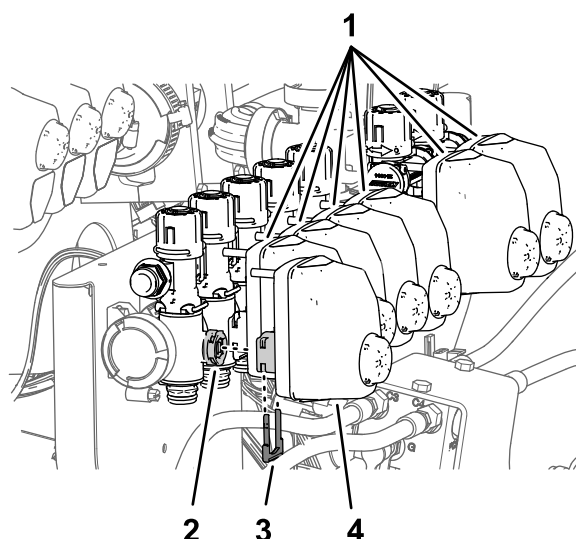

Figure 98
1. Remove the retainers that secure the valve actuators for nozzle valves 1 through 7 (Figure 98).
2. Remove the valve actuators from nozzle valves 1 through 7 (Figure 98).
10. Assemble the valve actuators onto the nozzle valves 1 through 7 (Figure 98) with the retainers that you removed in step 1.